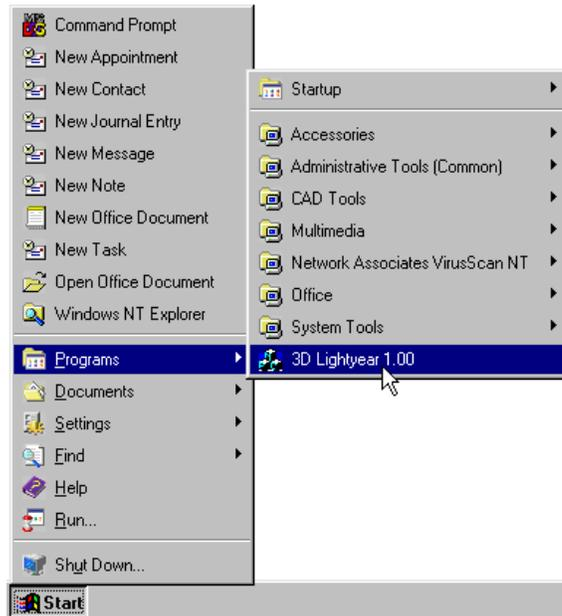

Figure 39. 3D Lightyear 1.00 Menu
- 1. Launch the 3D Lightyear software program, just as you would any other Windows program, by clicking the...  icon, positioning the cursor over the "Programs" menu, then clicking the "3D Lightyear 1.00" menu item, as illustrated in Figure 39.**